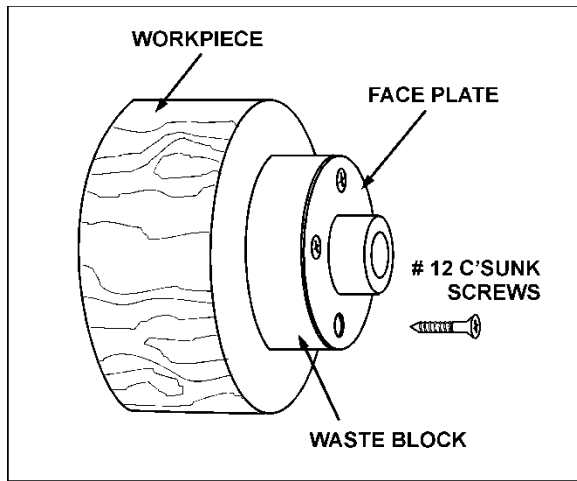

Figure 10-9: Faceplate Mounting
5. Make a block the same diameter as the face plate, Figure 10-9. Both waste block and workpiece should have flat surfaces for gluing.